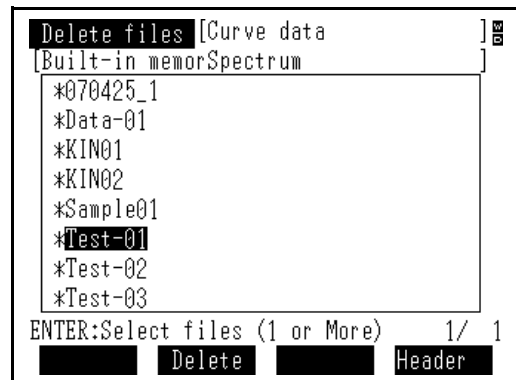

Fig. 3.5
- 5 The selected files are deleted, and you will return to the [Delete files] screen (Fig. 3.5). Then, press the  key to save the new file and return to the previous screen.